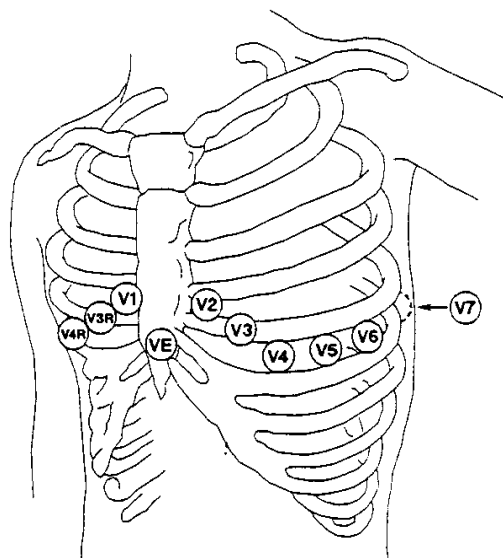

Figure12-3 C-Electrode Placement for 5-lead Set
- ◆ Red (R) electrode - Be placed near the right shoulder, directly below the clavicle.
- ◆ Yellow (L) electrode - Be placed near the left shoulder, directly below the clavicle.
- ◆ Black (N) electrode - Be placed on the right hypogastrum.
- ◆ Green (F) electrode - Be placed on the left hypogastrum.
- ◆ White (C) electrode - Be placed on the chest as illustrated in the Figure 12-3.
For 5-lead set, attach the C (V)-electrode to one of the indicated positions as below (Figure 12-3):